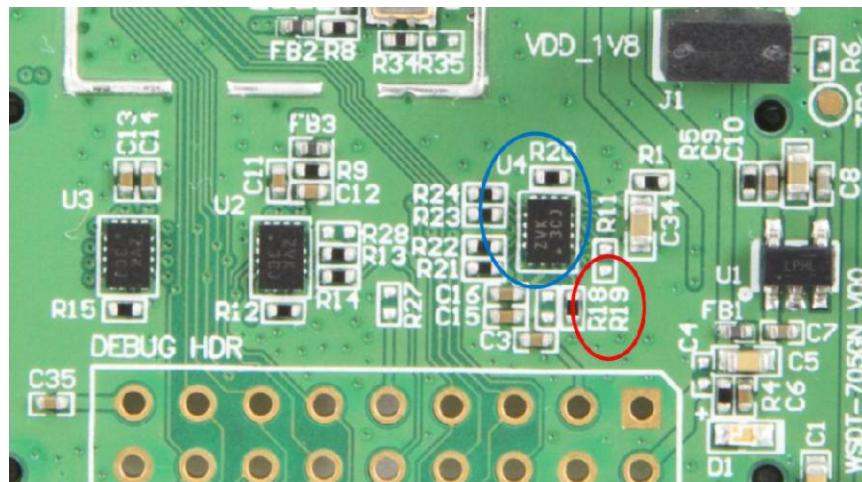

Figure 13. Resistors to Change the Direction of the PCM
2. Remove resistor R19 on the U4 level shifter (for the positions of the resistors, see Figure 13).